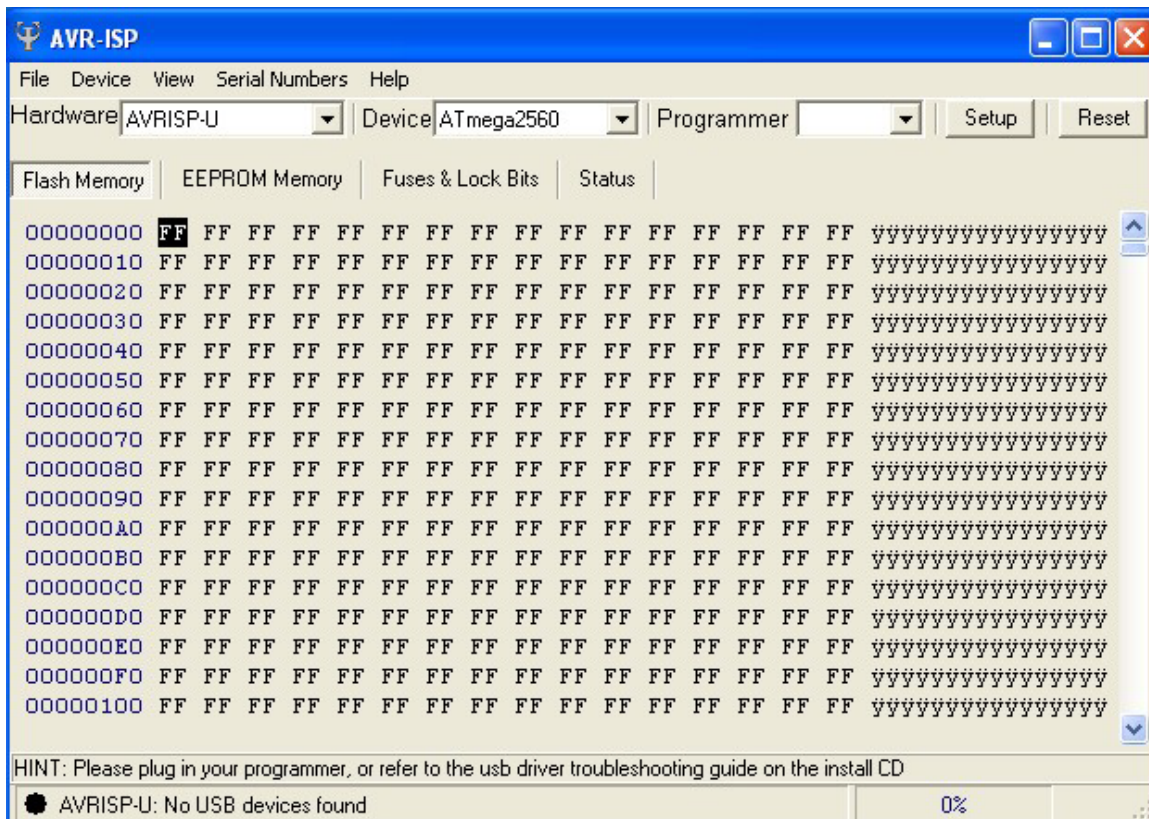

Figure 1
- Refer to Figure 1 on the next page for the AVRISP-U program.